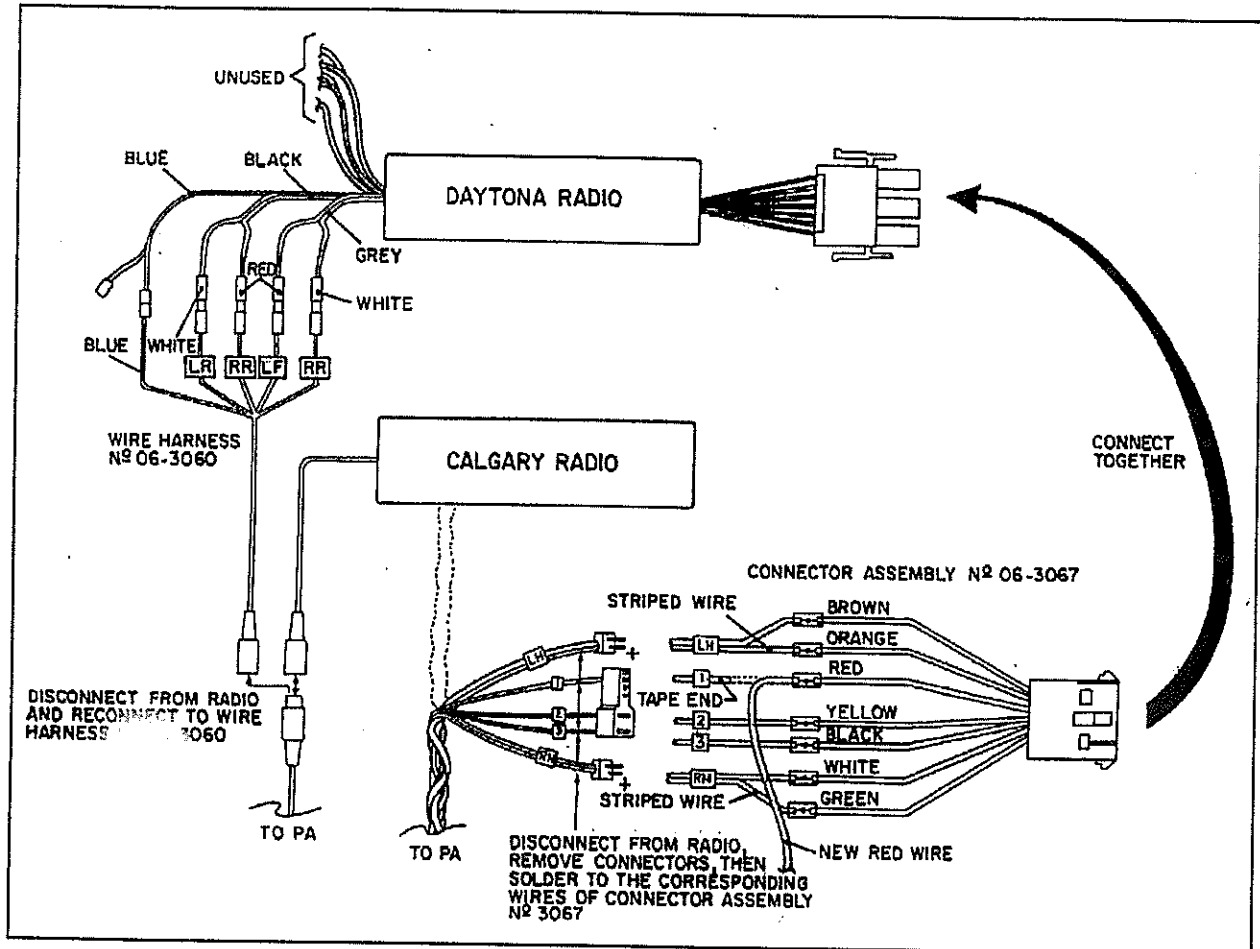

Fig. 7
2. Connect each wire on the other end of wire harness to the corresponding wire of "Daytona" radio according to the color code in figure 7.
7. Join and solder each wire of connector assembly #06-3067 to the previously stripped wires according to the color code in figure 7. The red wire of connector assembly must be soldered with the red wire (#16 AWG) supplied with kit.